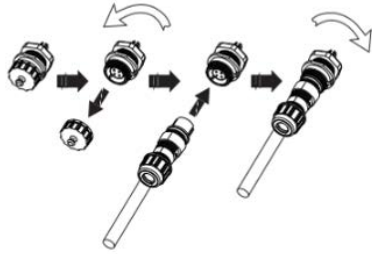

Fig. 10 – Connecting COM Cable with COM Connector
9. Align the "COM" cable with the "COM" connector on the battery and attach the cable to the battery. Secure the connection with the screw connector. See Fig. 10.